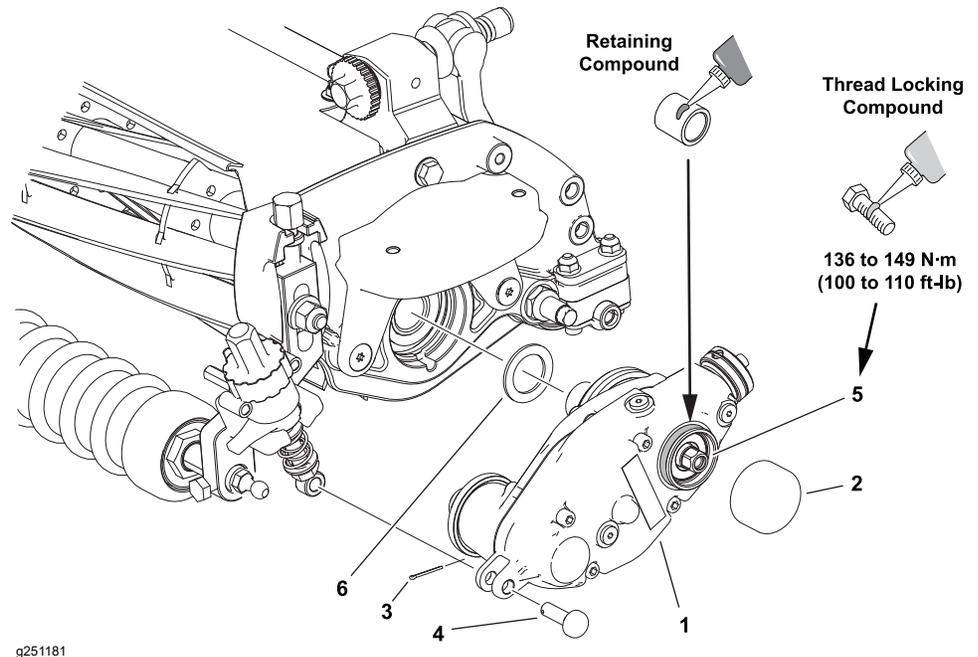

Figure 18
10. Retrieve the shim (item 6 in Figure 18).
- 12. Retrieve the shim (item 6 in Figure 18).